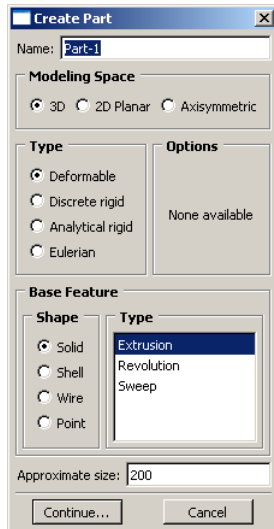

Figure 4a. Create Part Dialog Box
- Using the left mouse button, double click **Parts** in the model tree and the **Create Part** (Figure 4a) dialog box appears. Enter a new **Name:** for the part (**SOLID**),